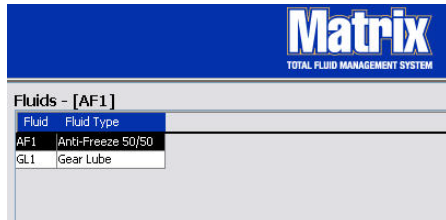

FIG. 110
6. To modify the name assigned to a fluid or the type of fluid assigned to a name (FIG. 110) highlight the entry listed on the main Fluids screen.